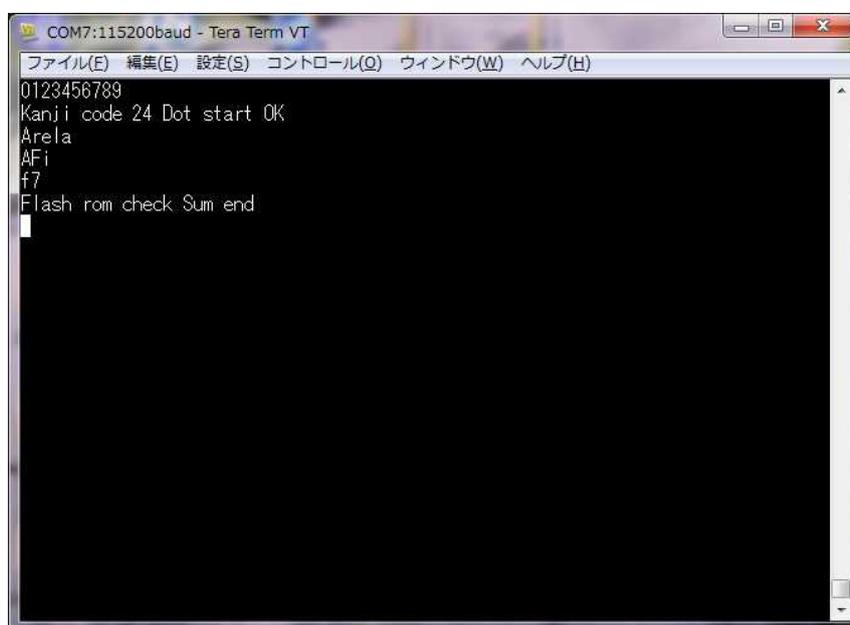

Fig. 5-3
- (6) The message “SFM is being erased” will appear on the LCD. Then, the serial flash memory mounted on the LCDC board will be erased (only the region in which the Kanji font data is stored will be erased.)
- (7) After the serial flash memory has been erased, the message “SFM has been erased successfully” will appear for one minute. Then, the message “the font data is being written in SFM” will appear and the font data will be written.
- (8) After the font data has been written, the message “Font data has been written in SFM” will appear.
- (9) Next, check to determine whether the font data has been written normally. Input the characters “AFi,” as shown in Fig. 5-3. Then, press the return key to transmit the characters.